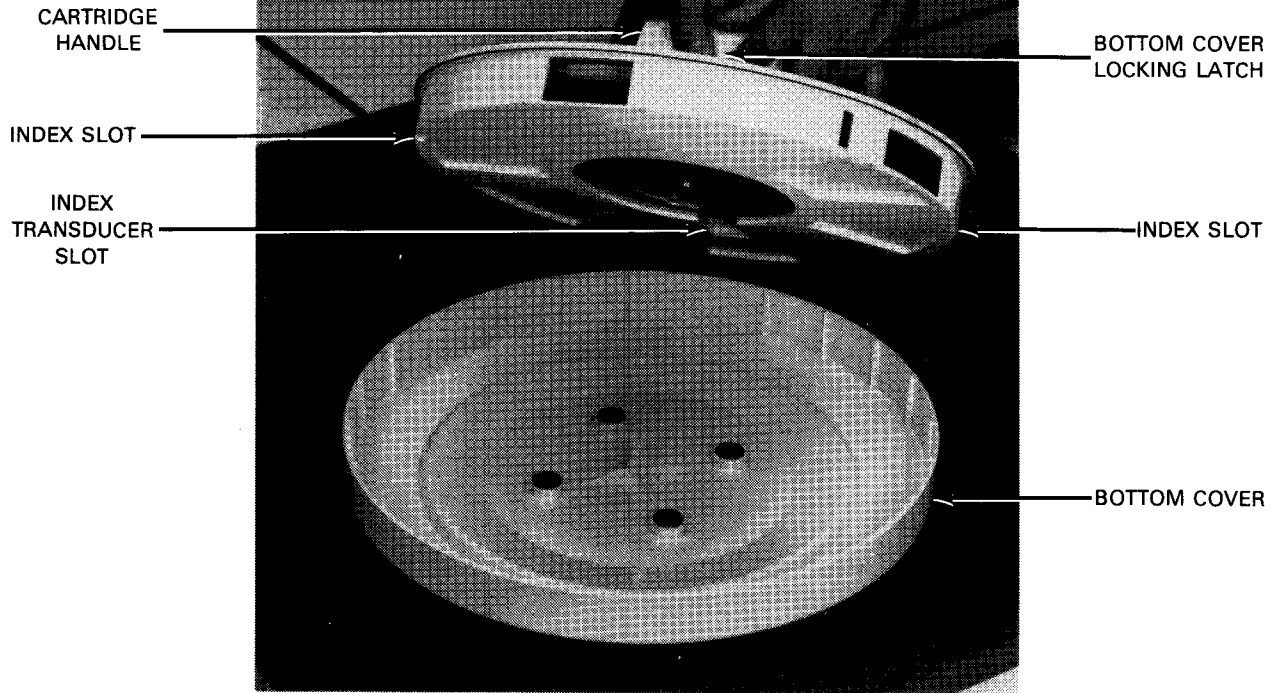
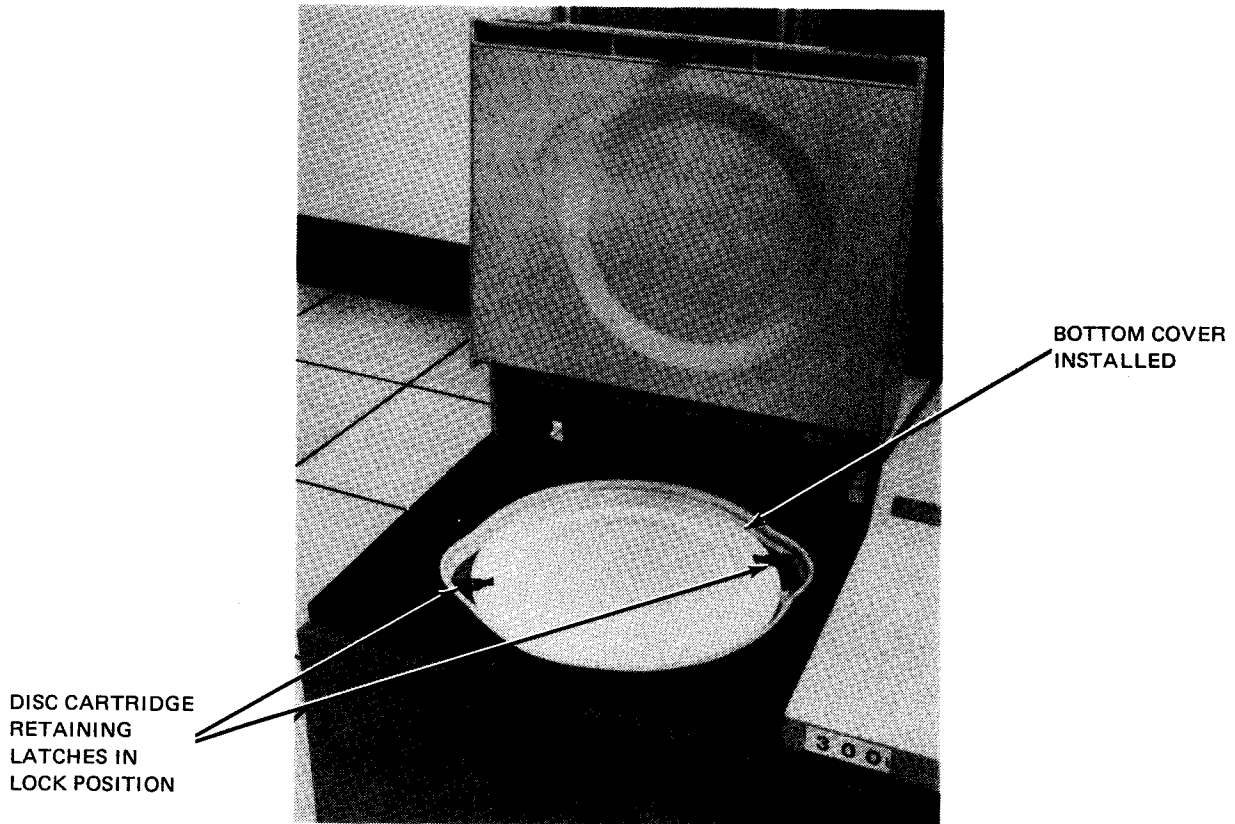

Figure 3-30. 8415 Disc Cartridge (F1215-00)
Figure 3-32. 8415 Disc Cartridge and Cover Fully Mounted on Drive Spindle
8. Invert the bottom cover (Figure 3-30) of the cartridge (bottom facing upward) and install it over the cartridge in the well (Figure 3-32).
9. Lock cover in place by rotating the disc cartridge retaining latches (Figure 3-32) to their lock position (clockwise direction).